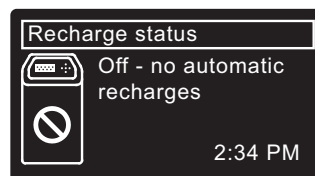

FIG. 41
6. Press the LEFT (◀) button (twice from the Recharge status screen) to return to the rolling status screens. If **Recharge off** was selected, the normal sequence of rolling screens will stop at the screen shown in Figure 41.